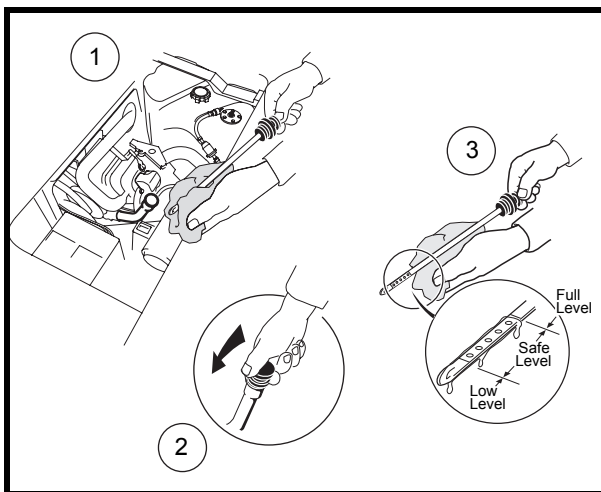

Figure 10-1 Engine Oil Level Check
1. Remove the oil level dipstick from the oil filler tube and wipe oil from the stick (**Figure 10-1**). See following **CAUTION**.